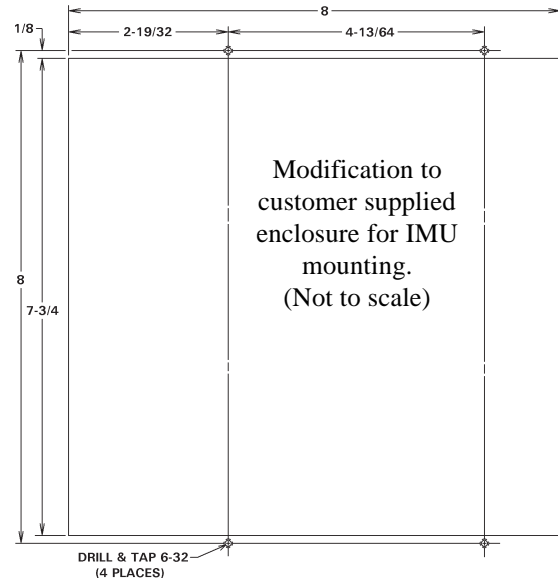

Figure H-2. *IMU enclosure modification*
1. Modify enclosure to accept IMU per Figure H-2.
2. Mount IMU Assembly to enclosure using four (4) black 6-32 x 1/4 screws supplied in poly bag taped to bottom of IMU.